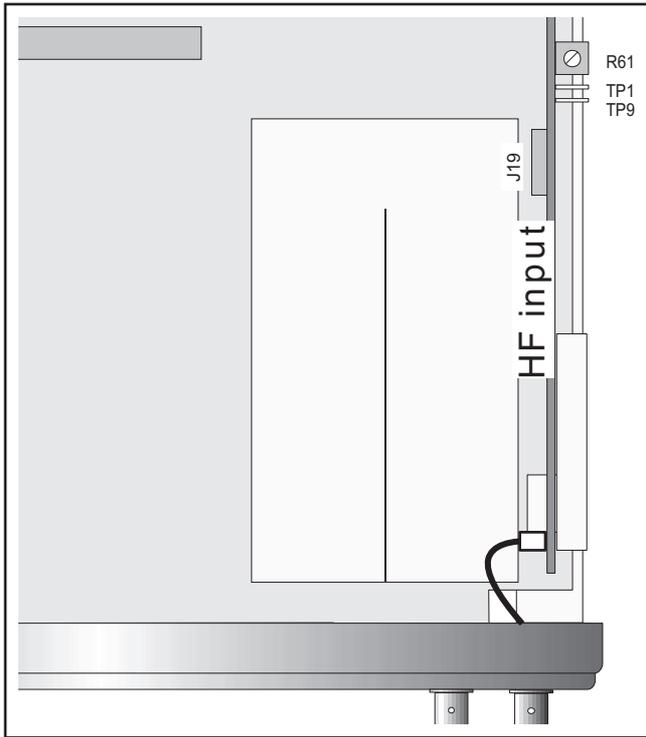

Fig. 6-5 Test points and trimmers for the 3.0 GHz HF input.
- Turn the potentiometer R61, (see Fig. 6-5) fully counterclockwise.